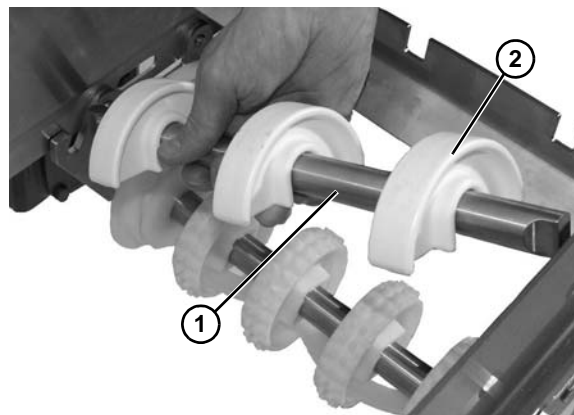

Figure 38
4. Remove belt return (Figure 38, item 1).
5. Remove and replace belt return shoes if worn (Figure 38, item 2).